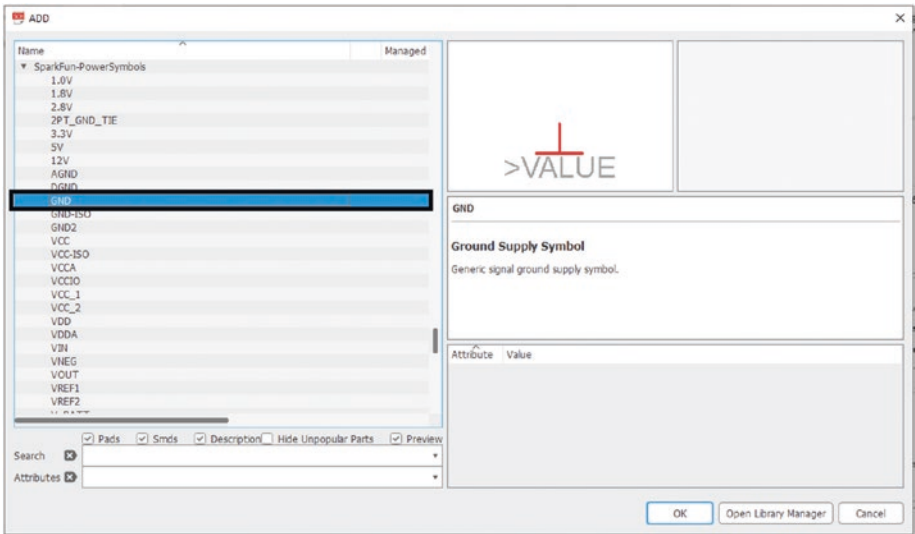

Figure 5-21. *Select GND symbol*
8. Pressing escape will bring you back to the ADD window where you can double-click GND. See Figure 5-21.